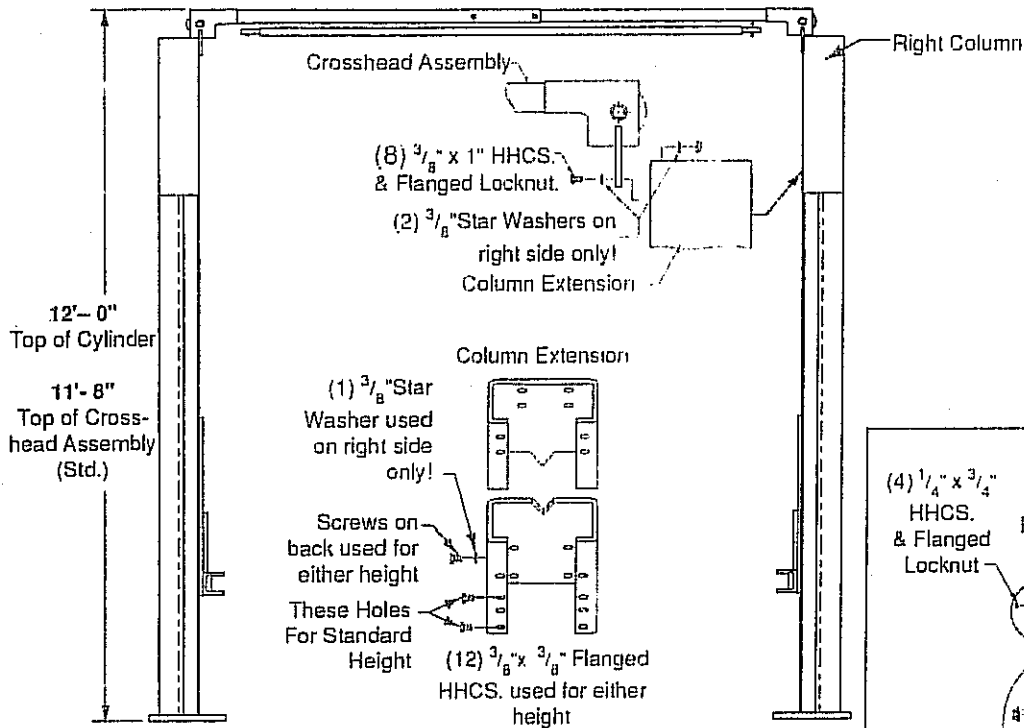

Fig. 4
- Lift Height:** See Fig 4 for overall lift height of each specific lift model. Add 1" min. to overall lift model height to lowest obstruction.
• All Star Washers are to be mounted on the Right side column to ensure grounding of overhead limit switch. Star Washers are not needed when mounting to Left Side column. Notice the column extension mounting, Fig.4, and overhead limit switch mounting as well in Fig.6.
6. Install column extensions to columns using (12) 3/8" x 3/8" lg. Flanged Hex Cap Screws, Fig. 4. Adjust column extensions plumb as required.
8. Install crosshead assembly to column extensions with (8) 3/8" x 1" lg. Hex Cap Screw and Flanged Locknuts, Fig. 4. Tighten bolts at center of crosshead assembly.